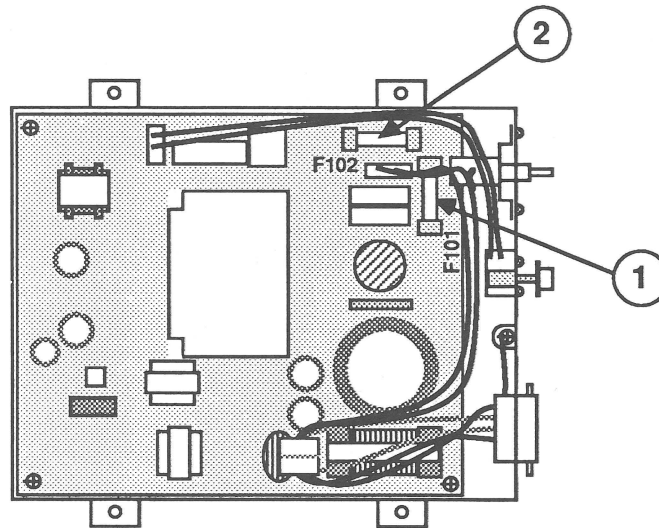

FIGURE 22
- 6.3A 250V fuse at position F101 (Figure 22, #1)
- 3.15A 250V fuse at position F102 (Figure 22, #2)
1. Carefully snap the new fuse into the appropriate fuse holder. A 6.3A 250V fuse must be used at position F101 (Figure 22, #1), and a 3.15A 250V fuse must be used at position F102 (Figure 22, #2).